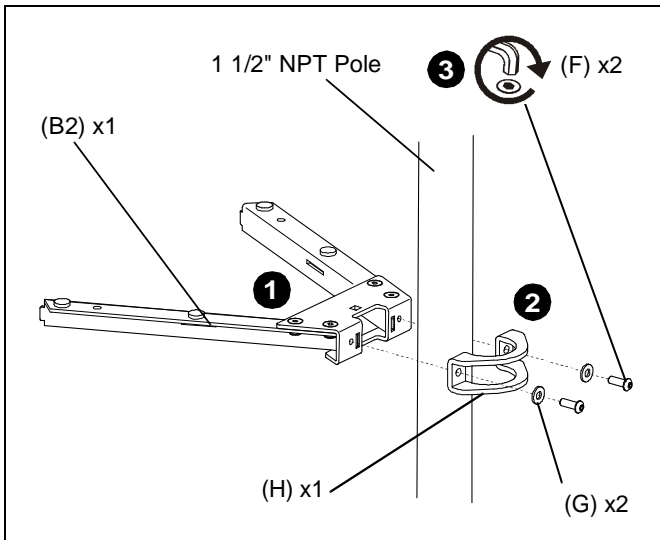

Figure 2
2. Align pole mount bracket (H) with shelf base (B2).
3. Secure pole mount bracket (H) to shelf base (B2) using two flat washers (G) and two button head cap screws (F). (See Figure 2)